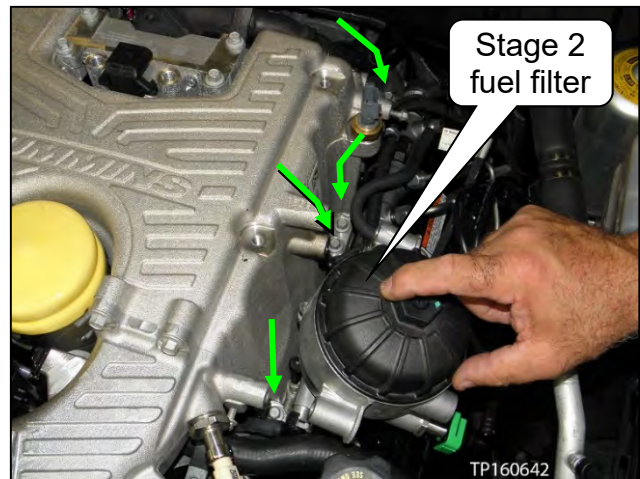
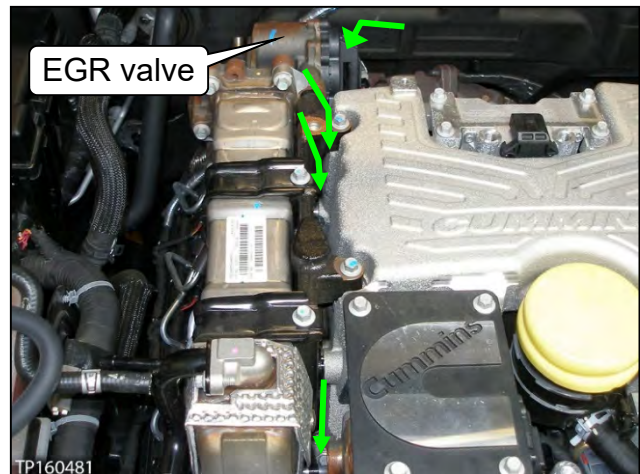

Figure 41
Figure 42
28. Remove the eight (8) intake manifold bolts, and then carefully remove the intake manifold assembly.
- See bolt locations in Figure 41 and Figure 42.
NOTE: Three of the intake manifold bolts on the “EGR valve” side cannot be seen in Figure 42.